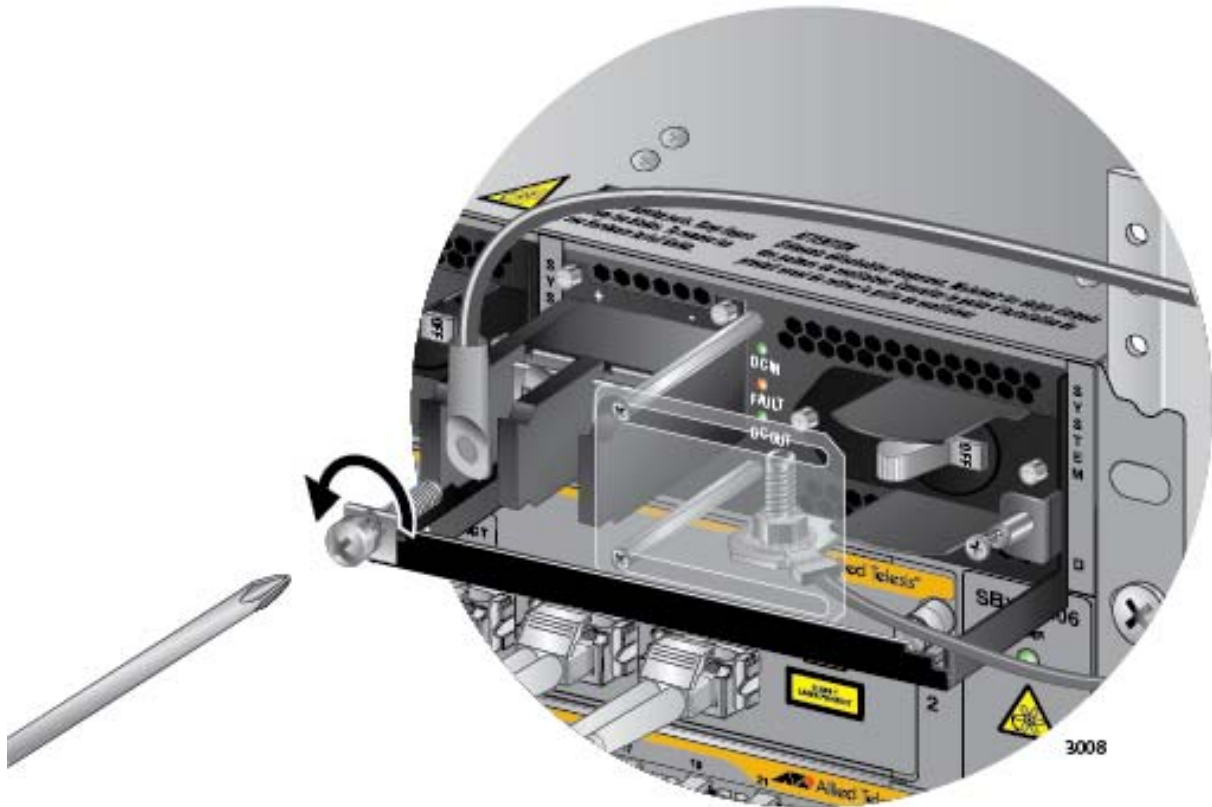

Figure 173. Removing the Positive Lead Wire from the Terminal Block
6. Use a #3 screwdriver to remove the positive (+) lead wire from the terminal block. Refer to Figure 173 on page 276.